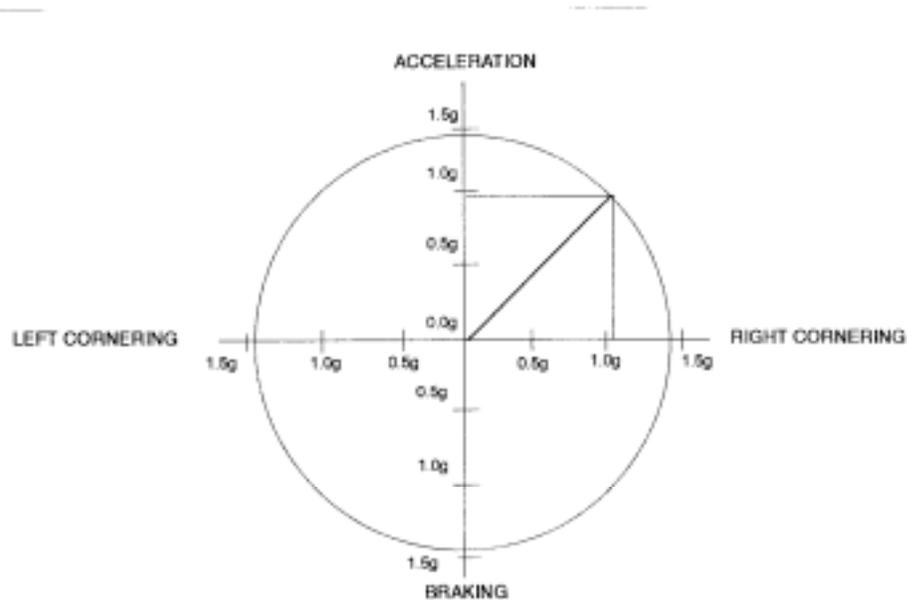

Fig 8
A tire is capable of generating almost equal force in acceleration, deceleration or cornering. Once it reaches its limit of adhesion doing any of these tasks, it slips against the road surface and loses its effectiveness. If we plot the maximum forces that any given tire can develop in each of these operations, we end up with what is known as the Friction/Traction Circle. The diagram shows a single tire with a constant vertical load. In his book, "Drive to Win", Carroll Smith uses the following diagram (fig. 8) to show that a tire can generate either 1.4-g of acceleration thrust or 1.4-g of cornering force. (braking thrust can be substituted for accelerative thrust). It cannot, however develop 1.4-g of both at the same time. In fact, if it is generating 1.4-g of either, it can generate exactly 0.0-g of the other.
*If a tire is generating both a lateral and a longitudinal force, it must develop a lesser amount of each than it could of either one singly. This is illustrated by the vector marked FT, which shows the tire generating a cornering force of, 1.1-g while accelerating a 0.8-g with a resultant force vector of 1.4-g. (Fig. 8)*